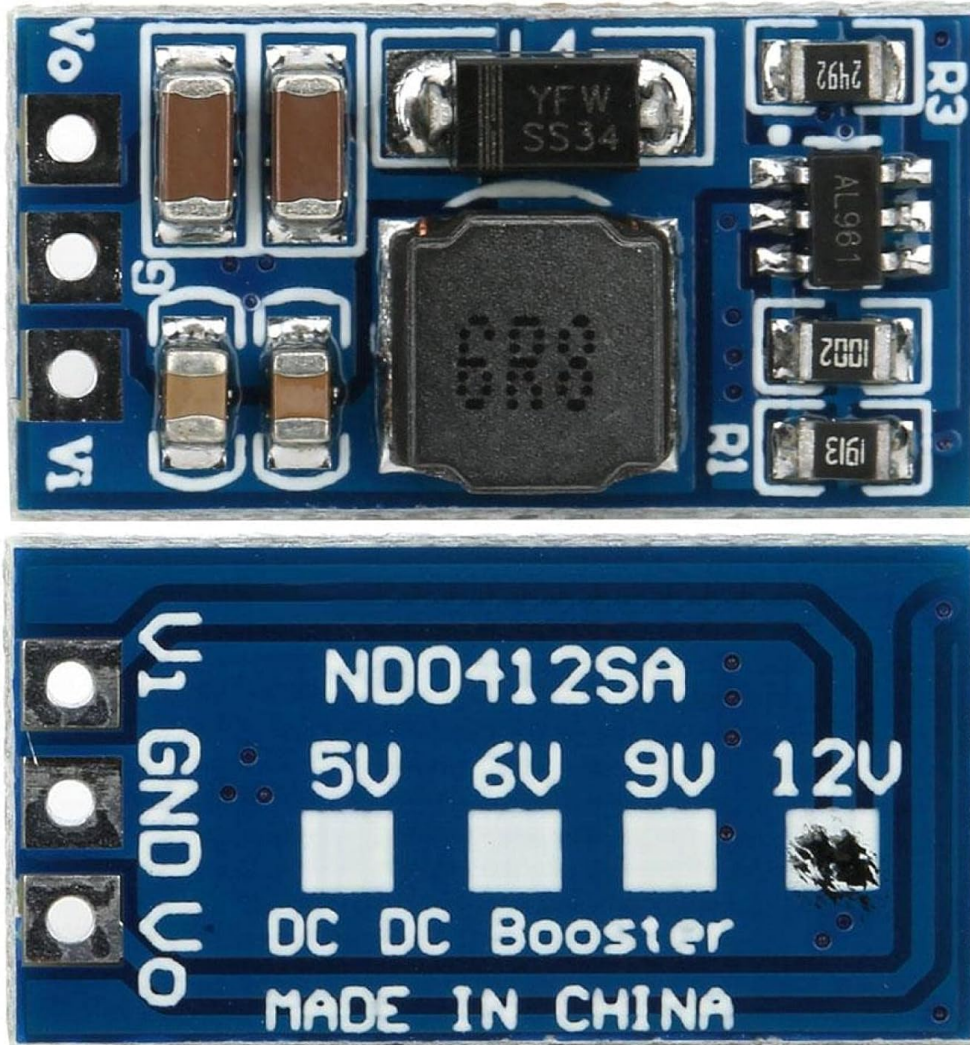

Figure 3.2: Bottom view of the ND0412SA module, showing the output voltage selection pads.
1. **Output Voltage Selection:** Before connecting power, select your desired output voltage (5V, 6V, 9V, or 12V) by bridging the corresponding solder pads on the bottom of the module (refer to Figure 3.2). For example, to set the output to 12V, bridge the pad labeled '12V'. If no pads are bridged, the module may default to a specific voltage or operate unpredictably.